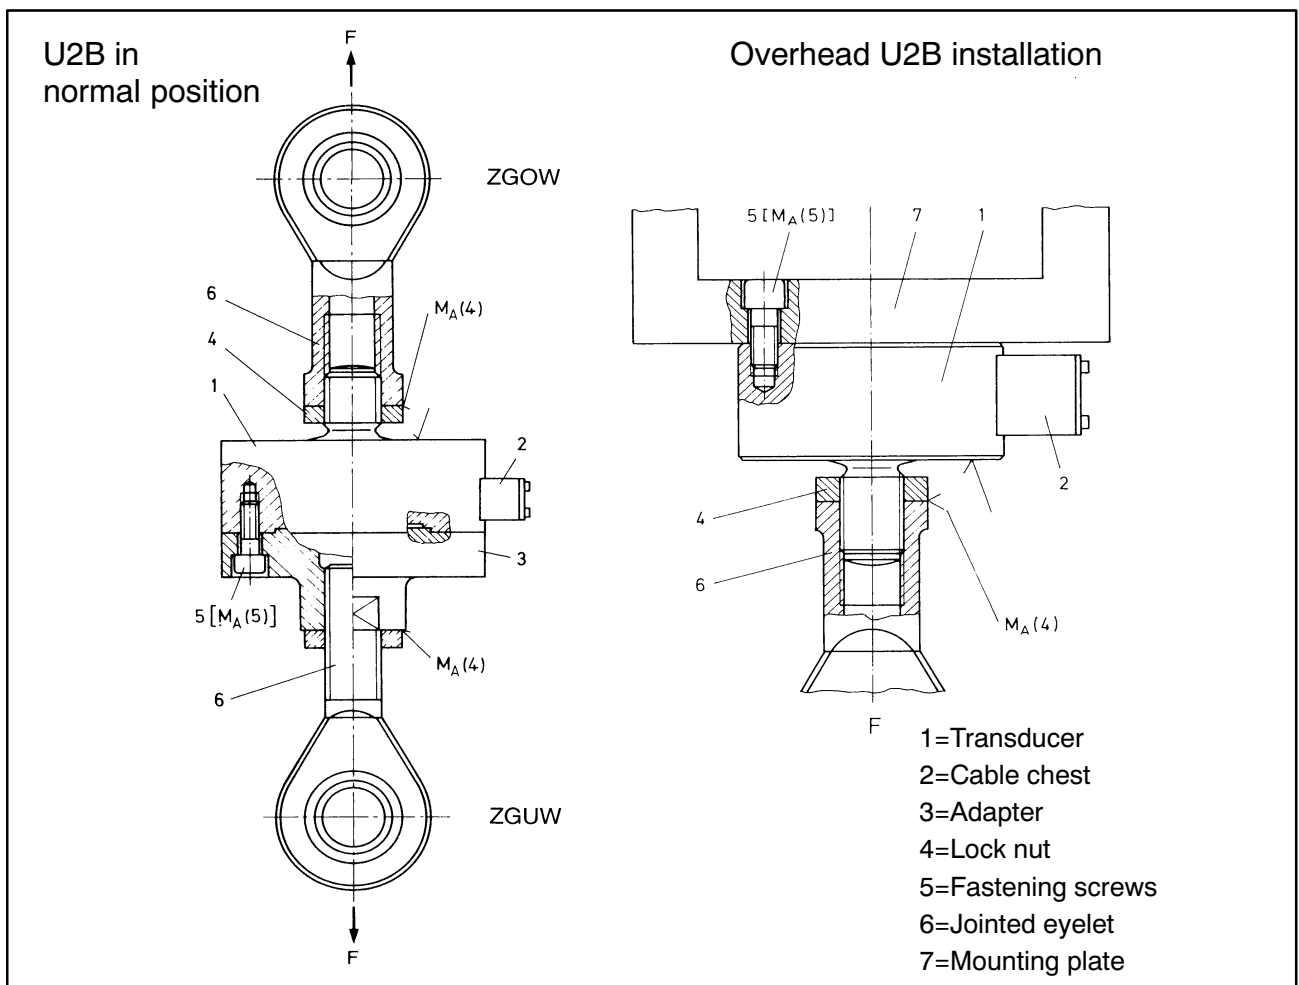

Fig. 4.1: Installing the U2B
The adapter (3) can be removed by undoing the screws (5). The transducer can then be screwed onto the upper part for taking tensile measurements. Care must be taken to make the bearing surface on the mounting plate flat. For attachment use screws (5) of at least A2-70 quality (Fig. 4.1). To withdraw them again use torque $M_{A(5)}$ (see dimension chart). When the adapter is removed the zero signal on the force transducer can change by < 1 %. Make compensating adjustments for this when connecting the electronics. When measuring dynamic forces, the screw connections to the threaded pin and internal thread must be properly pretightened when the transducer is free of load: the tightening torque $M_{A(4)}$ is listed in the dimension chart. It may be exceeded by not more than 10 %. If a lock-nut is used, the torque must on no account be conducted through the transducer.